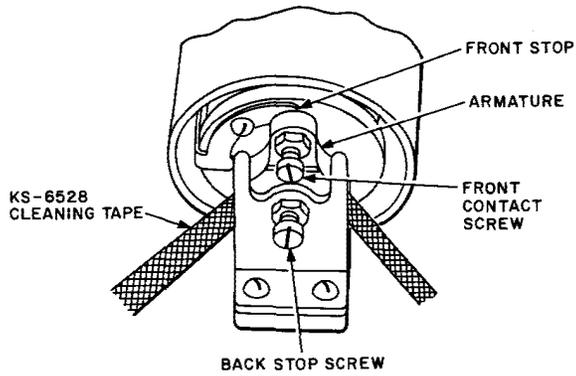

Fig. 57—Method of Cleaning Backstop Screws on 89-, 101-, 105-, 108-, 117-, 118-, and 190-Type Relays
7.19 To clean the front contact screw and frontstop, fold the tape lengthwise and, while holding the armature in the operated position, pass it between the screw and the frontstop. To clean the backstop screw, fold the tape lengthwise and pass it between the screw and the armature as shown in Fig. 57.